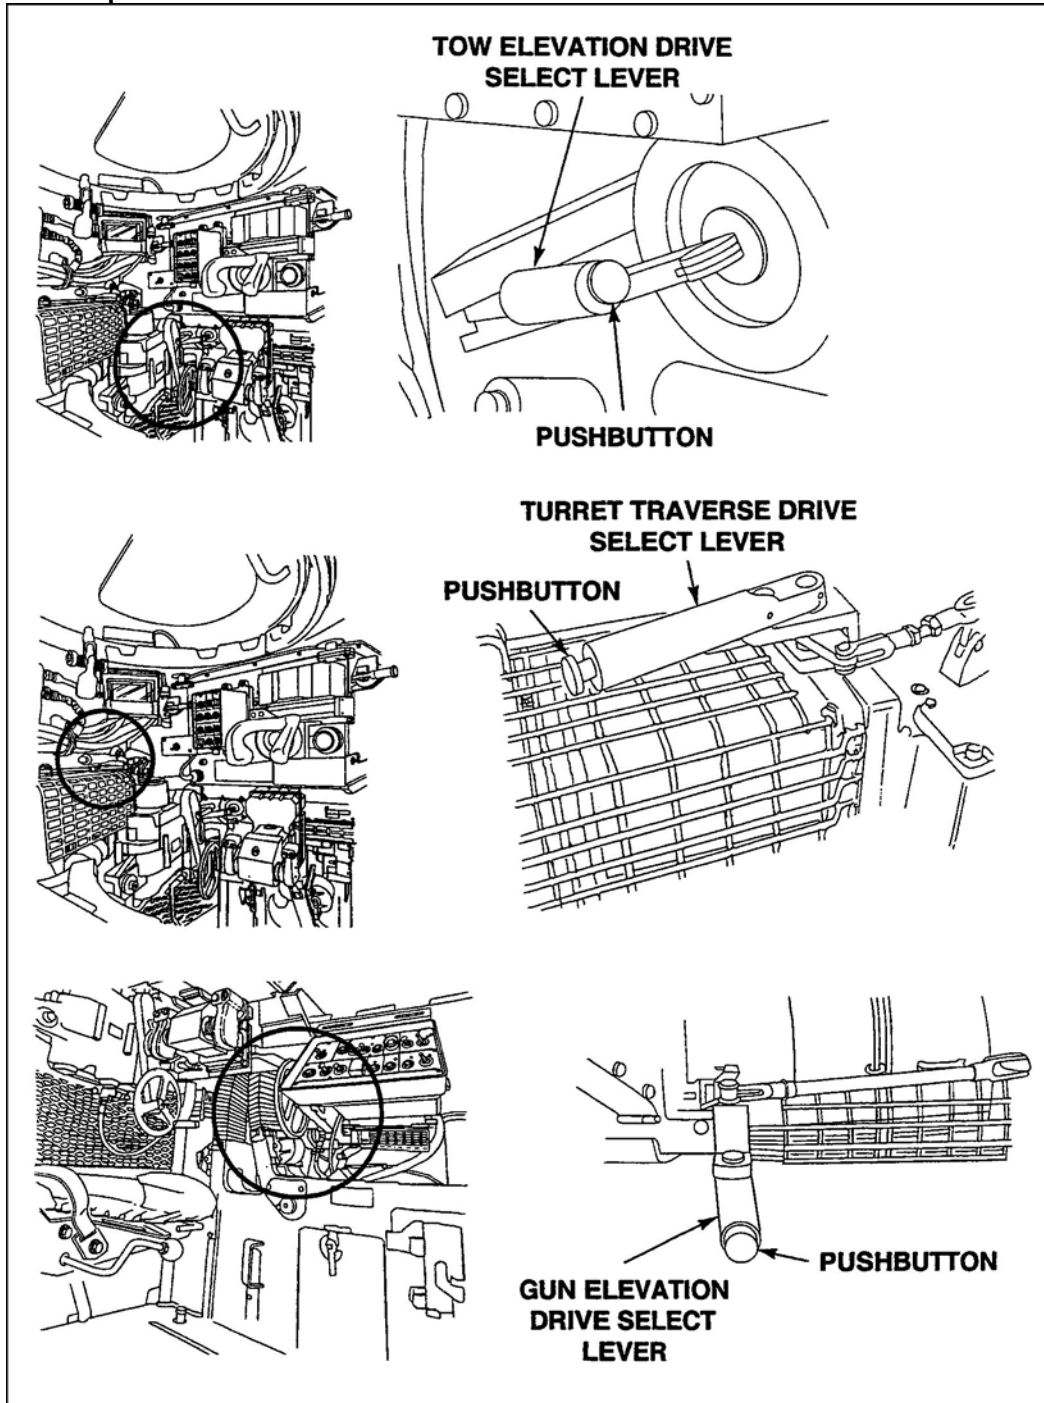

Figure 2. Selector levels.
- b. Ensure the turret traverse, gun elevation, and TOW elevation drive select levers are in the POWER mode (Figure 2).